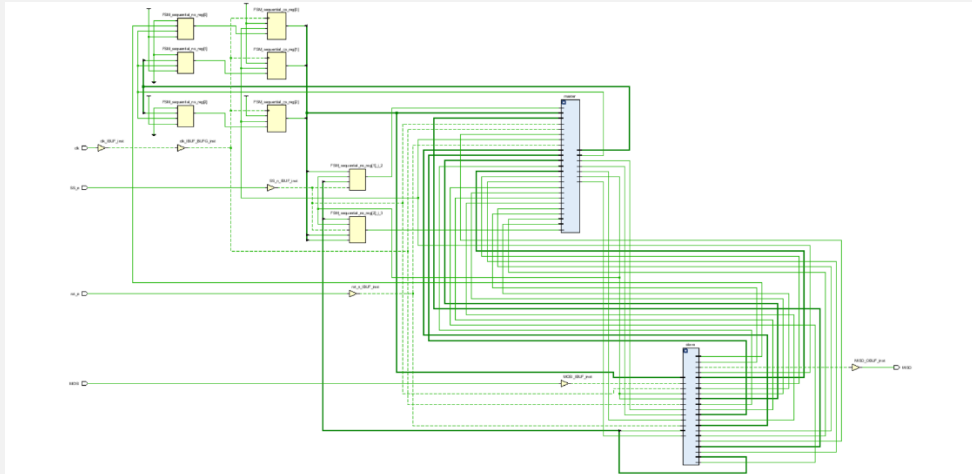

Figure11 :Synthesis schematic
- Figures 11–14: Post-Synthesis View